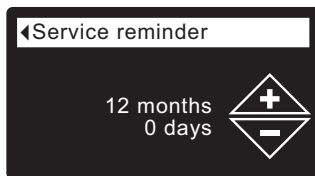

FIG. 100
7. Press the SELECT (O) button to display the Service reminder screen (See Figure 100).